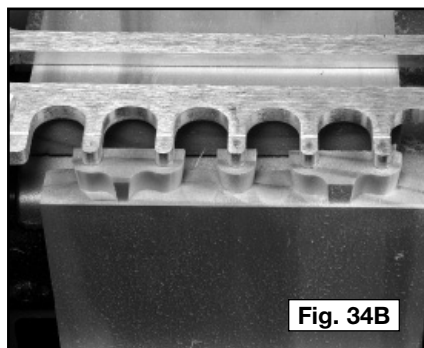

Fig. 34B
- Step 3** - Use the router to round over the ends of the cuts (Fig. 34B).